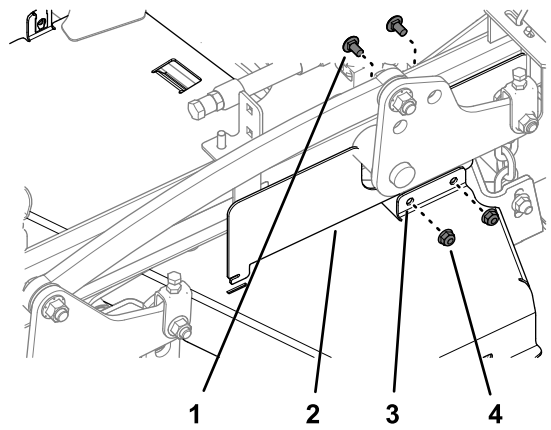

Figure 43
2. Assemble the left side CE cover to the left belt cover (Figure 43) with the 2 carriage bolts and 2 lock nuts that you removed in Removing the Left Belt Cover (page 26).